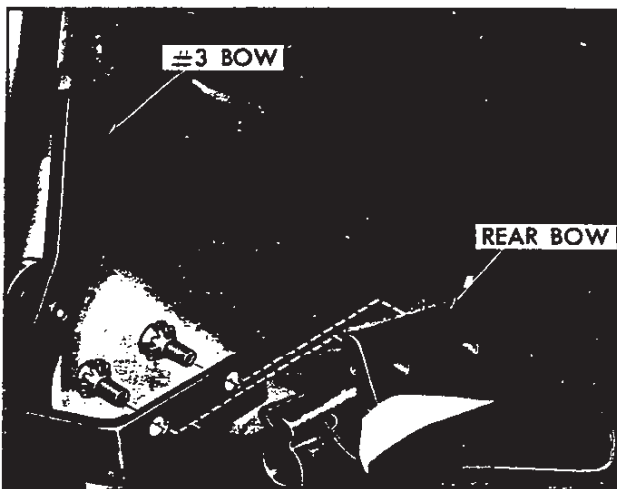

Fig. 66—Rear Bow Retaining Screws
8. Disconnect rear bow from top frame assembly. Two screws retain at each side Figure 66.